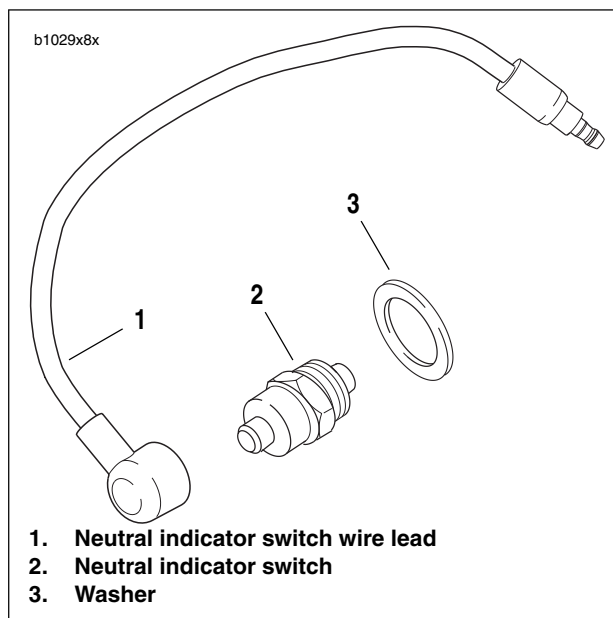

Figure 7-70. Neutral Indicator Switch
3. See Figure 7-70. Remove wire lead (1) from neutral indicator switch (2).
4. Remove neutral indicator switch and washer (3).
- a. Apply a light coating of LOCTITE THREADLOCKER 243 (blue) to **new** neutral indicator switch (1) threads.
- b. Install washer (3) over neutral indicator switch (2) threads.
- d. Connect wire lead (1) to switch.